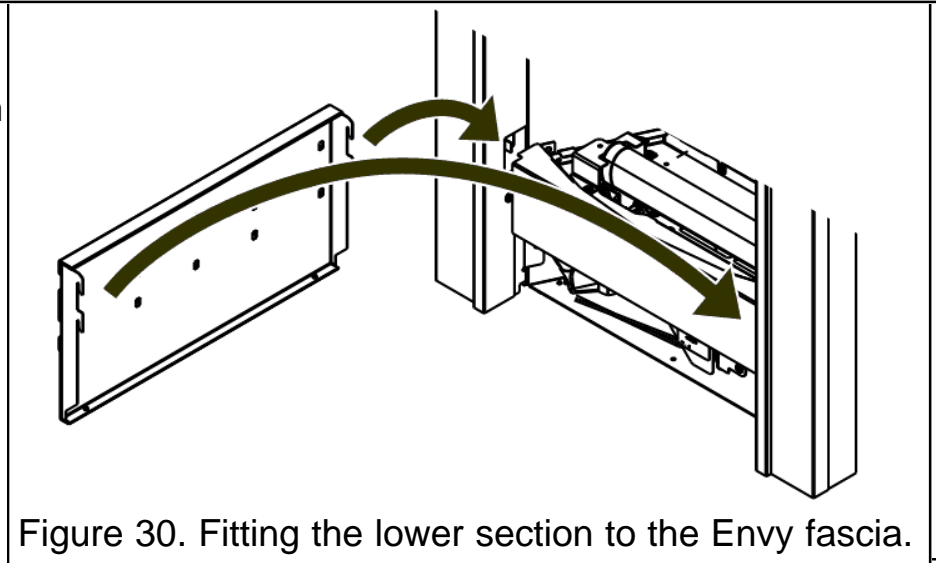

Figure 30. Fitting the lower section to the Envy fascia.
6. **Envy model only** - Locate the lower section of the fascia onto the tabs as shown in figure 30.